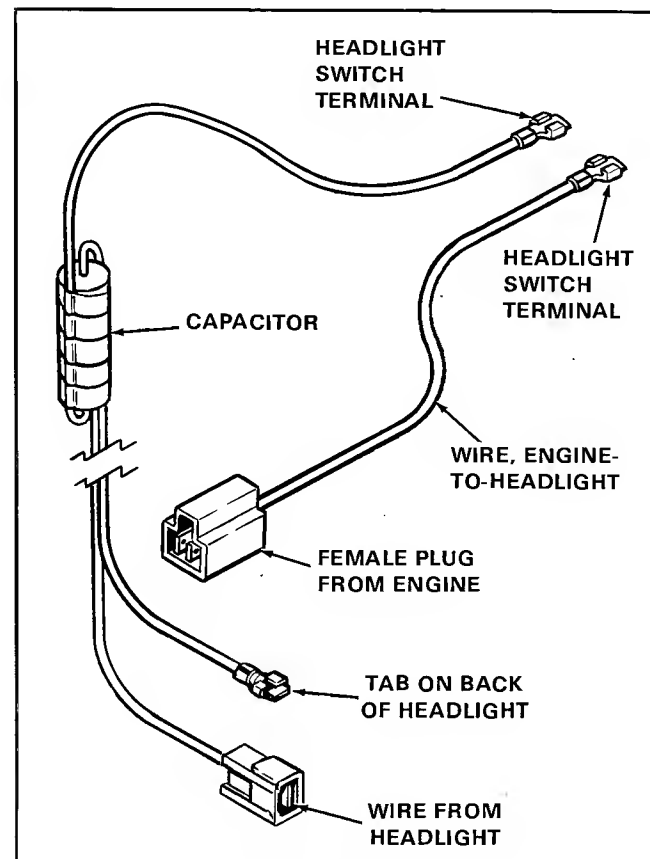

Figure 6. Disconnect and Remove Wires
11. Remove the capacitor assembly (figure 6) and the engine-to-light wire from the snowthrower by disconnecting from points described in figure 6. These wires will not be needed.